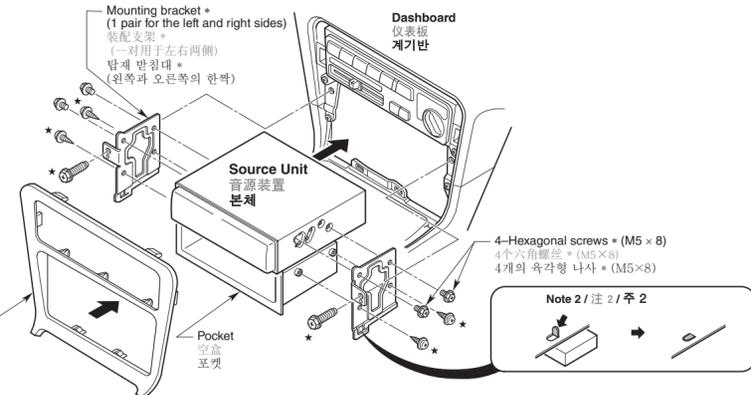

Figure 7 / 图 7 / 그림 7
If the vehicle is equipped with a factory-installed radio, install the source unit with the parts and screws marked (★) (Figure 7).
- Secure the mounting brackets to the chassis as shown in Figure 7. Holes are pre-tapped for TOYOTA and NISSAN vehicles; modification, such as drilling new holes, of the mounting brackets may be required for other models.